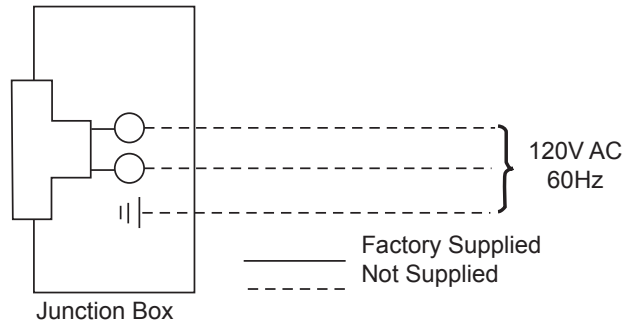

Figure 39 -
3. The junction box cover has a factory installed “romex” style strain relief connector. After connecting the wires, route the wire leads through this connector. Refer to the wiring diagram in *Figure 39*.